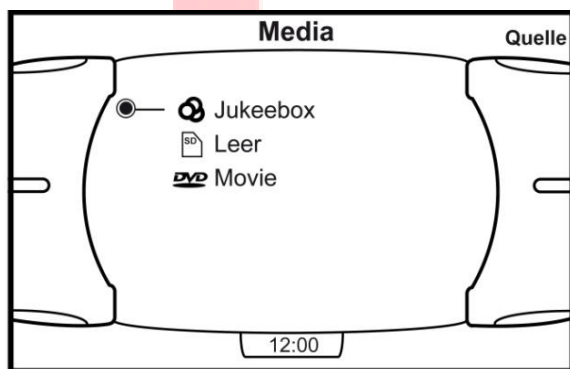

Fig. 7
10. The system reboots automatically (Fig. 7 appears on the display).